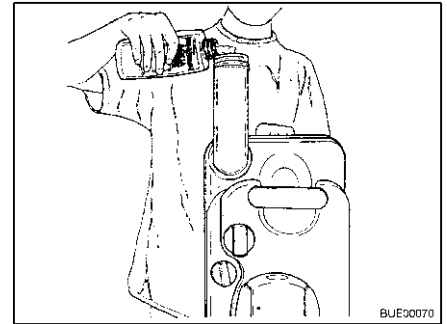

Fig. 176 Filling with sanitary liquid
- Fill the stated amount of sanitary liquid into the sewage tank (Fig. 176).